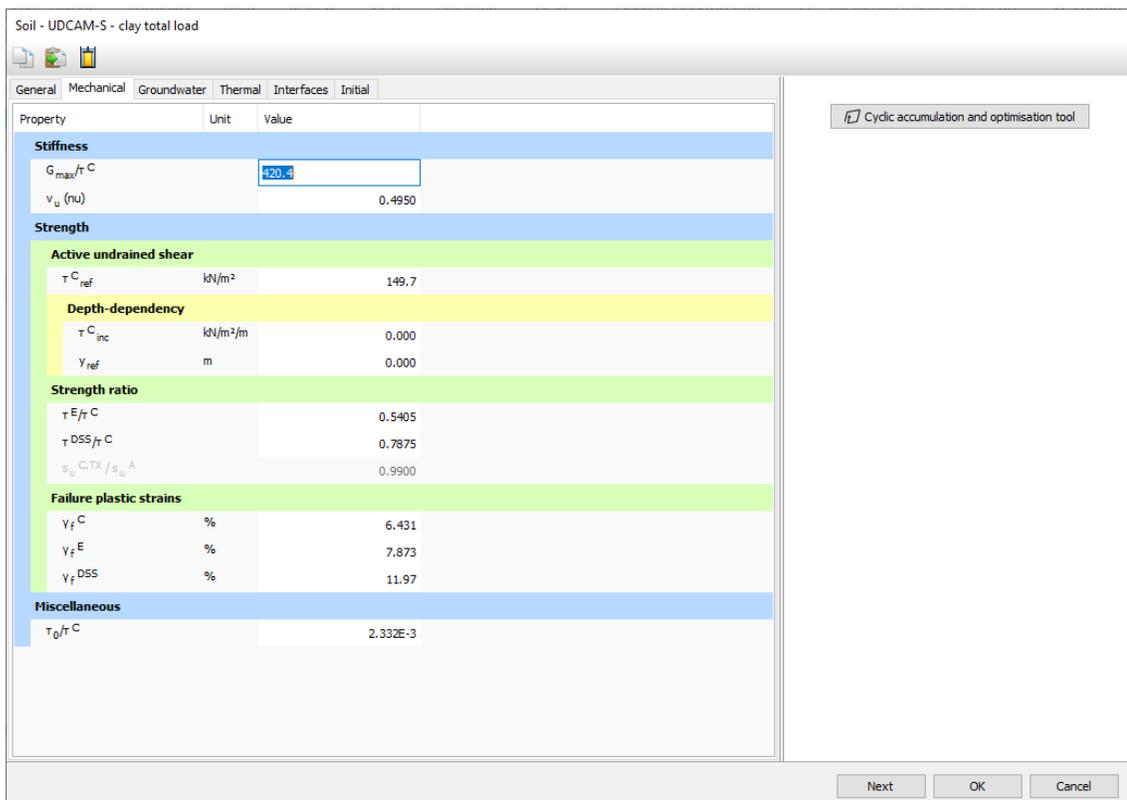

Figure 142: Copy parameters into Clay total material
7. Click the **Paste material** button . The values in the **Mechanical** tab are replaced with the new values as shown in Figure 142 (on page 163).